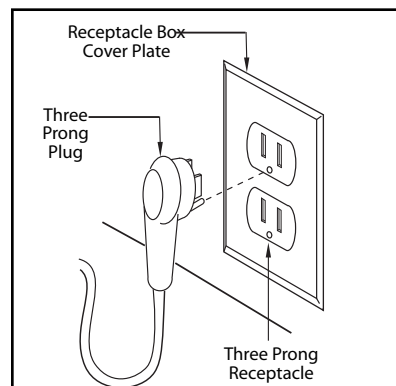

Fig. 8
**THE THIRD PRONG SHOULD NOT, UNDER ANY CIRCUMSTANCES, BE CUT OR REMOVED** (See Fig. 8 & 9).